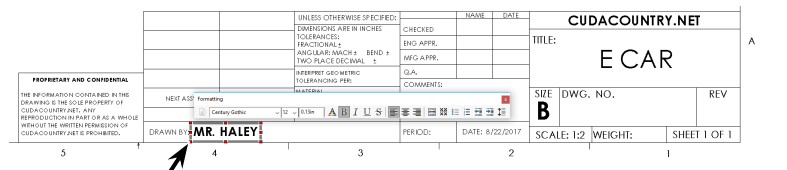

Fig. 18
Step 3. Click just to the right of **DRAWN BY**:, **Fig. 18**.
Step 4. Lock the Caps and key-in **your first and last names**, **Fig. 18**.